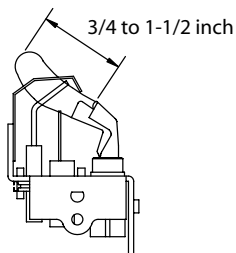

Figure 4
3. The manifold pressure must be adjusted to 10.0 inches water column (2.5 kPa). This manifold pressure applied to #53 main burner orifices assures that the input rating is correct for altitudes up to 2,000 feet (610 m). For altitudes above 2,000 feet (610 m), see (4) below. This is very critical as overfiring or underfiring can cause problems. Move the manual control on the gas valve to the "Off" position, connect the manometer to the pressure tap on the outlet side of the gas valve, turn the control on, fire the unit and adjust the pressure if necessary. To adjust the pressure, remove the cap from the pressure regulator on the gas valve, turn the regulator screw clockwise to increase pressure or counter clockwise to decrease pressure, then replace the cap.
6. The pilot flame should be  $\frac{3}{4}$  to  $1\frac{1}{2}$  inch (19 to 38 mm) in length (see Figure 4). To adjust the pilot flame, remove the pilot adjustment cover screw adjacent to the pilot tubing nut on the gas valve. Turn the inner screw clockwise to decrease pilot flame or counterclockwise to increase pilot flame. Replace the cover screw.